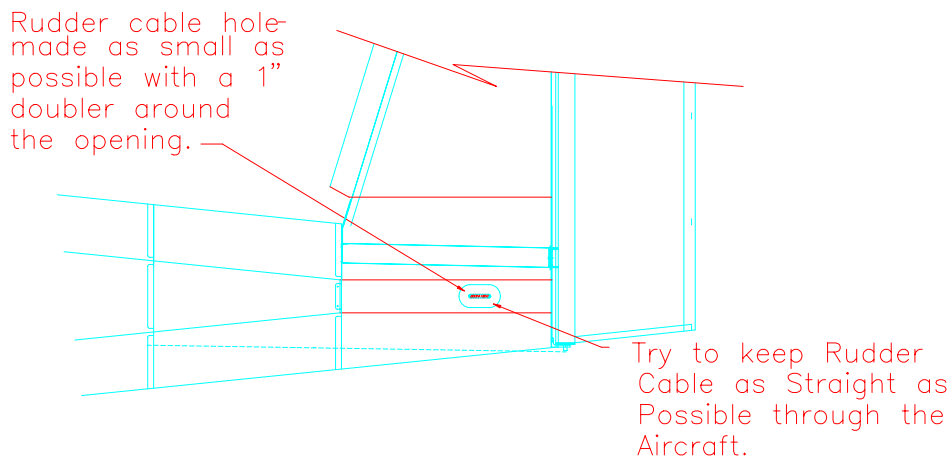

Figure 15.12.4
- 8) Locate the approximate location of the exit point for the cable. Drill two holes and cut out between as in Figure 15.12.4.